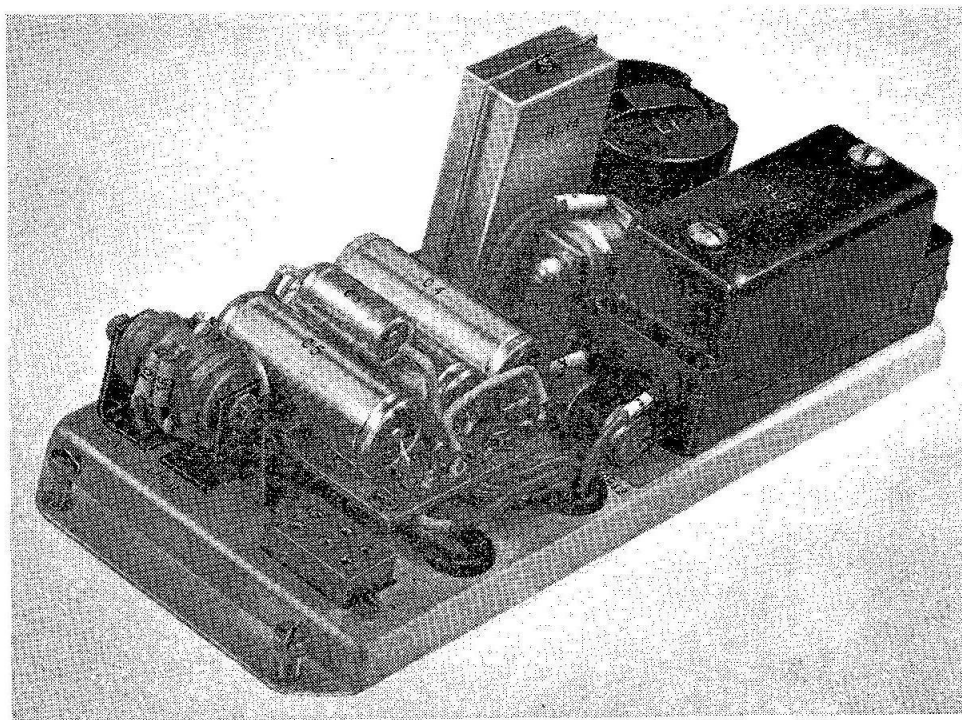

Fig. 1. Frequency sensitive unit, Type F5301/2
3. The unit (*fig. 1*) comprises the following components interconnected as shown in *fig. 2*, and secured to an aluminium anodized base-plate:—